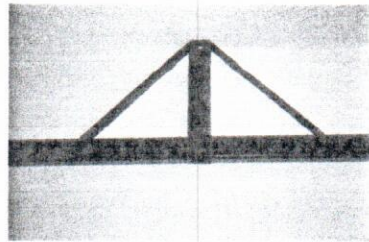

FIGURE 2
2. Set base stand, cross bars and brackets at each end of body (Figure 2).
- For most frames with suspension only, combine figures 2 and 4.